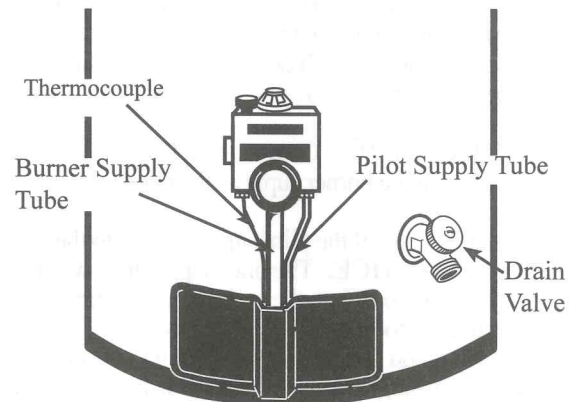

Figure 2
**2. DRAINING THE WATER HEATER:** Shut off the inlet water supply to the water heater. Connect one end of a garden hose to the water heater's drain valve and route the other hose end to a drain or suitable draining area. Open a hot water faucet to allow air to flow into the water heater tank then open the water heater's drain valve. See Figure 2.
Using a 3/8" open-end wrench, disconnect the thermocouple from the combination gas control. Using a 7/16" open-end wrench, disconnect the pilot supply line from the combination gas control. Using a 3/4" open-end wrench, disconnect the burner supply tube from the combination gas control. See Figure 2.